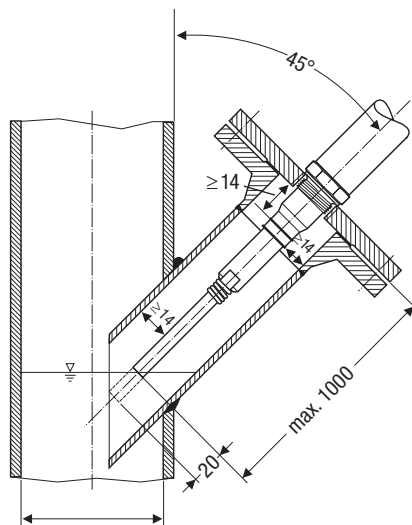

Fig. 17
- Provide a min. spacing of 14 mm between electrode and earth (flange, boiler wall), **Fig. 11, Fig. 17**
- When mounting the electrode laterally make sure that the inclination angle does not exceed 45° and that the length of the electrode rod is limited to 1000 mm. **Fig. 17**